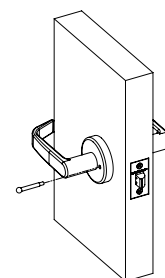

Figure 12
- For B10-03/03F privacy function, screw the push button into the inside rose. (Figure 12)